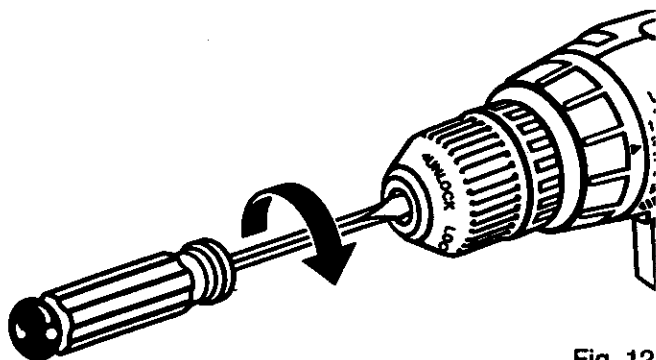

Fig. 12
- Open chuck jaws and remove allen wrench. Remove the chuck screw by turning it in a clockwise direction. See Figure 12. **Note:** The screw has left hand threads.